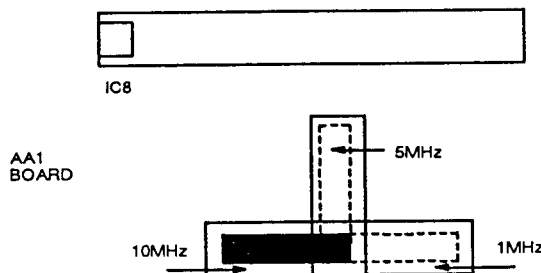

Fig. 5-13 External frequency standard adjustment (1, 5 or 10 MHz)
11. One of three external standard frequencies may be used providing a link on AA1 board is correctly positioned. Fig. 5-13 shows the position of the three link positions for 1, 5 or 10 MHz. Withdraw the link manually from the board (normally selected to 10 MHz) and reposition as required. On completion apply power and using 2ND FUNCT 10 record the current selection and STORE. Further check by selecting 2ND FUNCT 1 'Status' mode that the correct reading is evident in the modulation window.